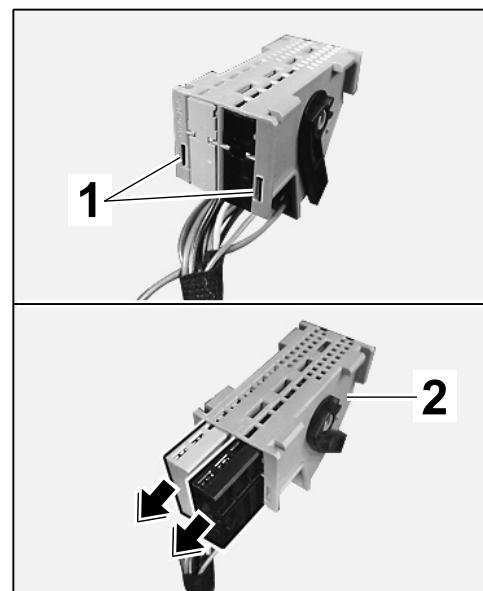

Figure 14
2.4.1 Open locking mechanisms ⇒ *Figure 14-1-* and slide both plug sockets ⇒ *Figure 14-arrows-* out of the blue plug carrier.